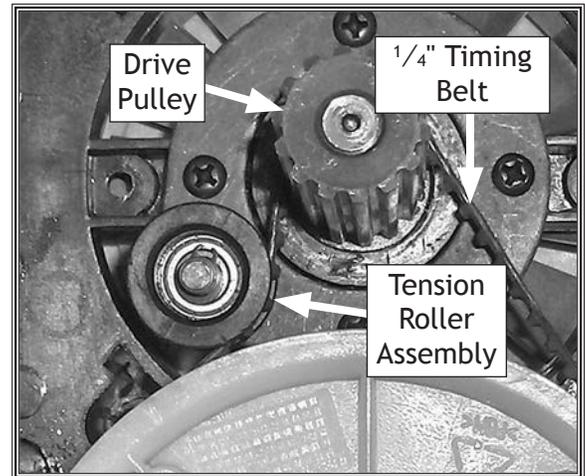

Figure 24. Timing belt installed onto drive pulley and tension roller assembly.
16. Install $\frac{1}{4}$ " timing belt onto drive pulley (#15) with timing belt wrapped around proper side of the tension roller assembly (#17), as shown in **Figure 24**.